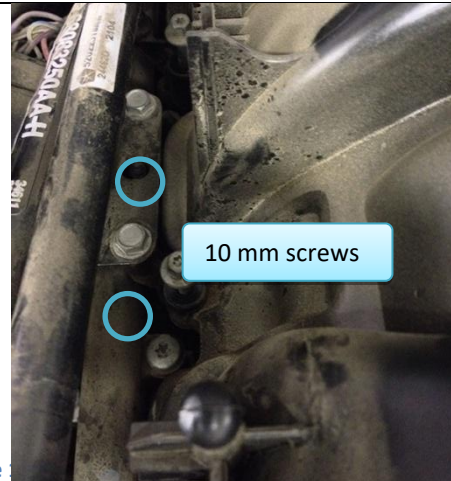

Figure 10: Intake side (n left).
- 7.4. Remove two screws from metal plate/bracket on intake side (Figure 10)